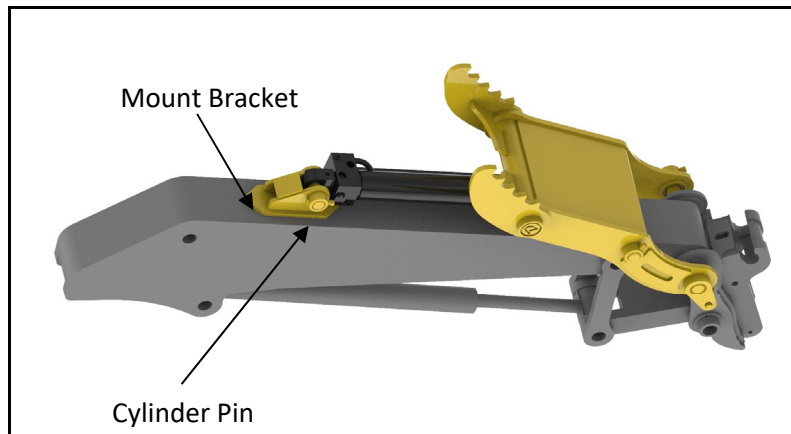

Figure 5 MOUNT BRACKET INSTALLATION
7. Manipulate the excavator to allow the Clamp assembly to lie horizontally along the dipper arm with the Clamp tyres facing away from the bucket end of the dipper arm. See Figure 5.
11. Ensure the cylinder is fully retracted, double check that the Mount Bracket is centred and sitting hard down on the dipper arm. Mark the location of the Mount Bracket. See Figure 5.